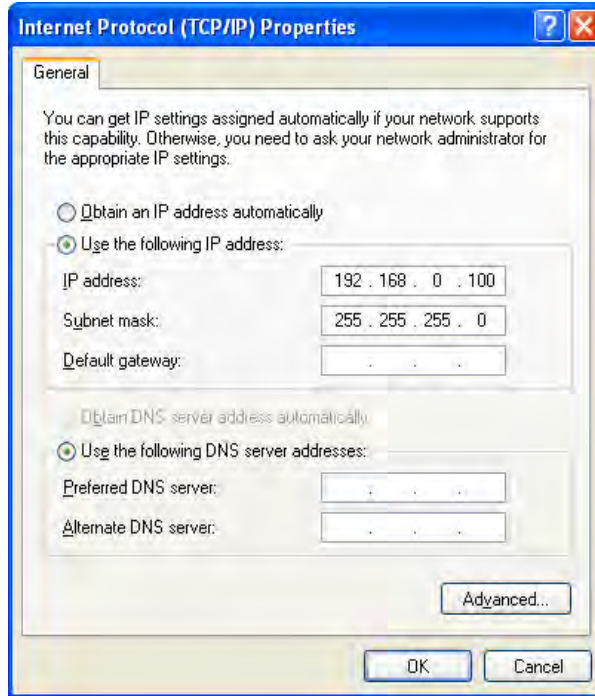

Figure 2-2: Select Network Protocol Dialog
- Click the **Use the following IP address** radio button (Figure 2-2). The IP Address, Subnet Mask, Default Gateway, Preferred DNS server and Alternate DNS server fields, which are greyed-out, become active.